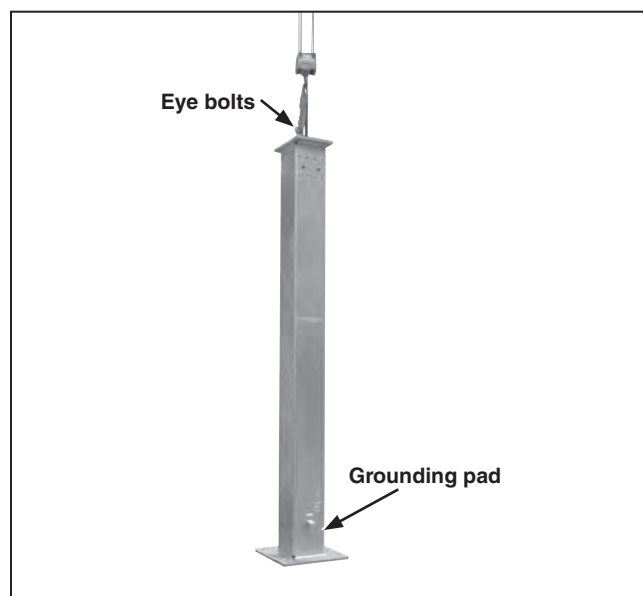

Figure 4. Lifting the pedestal into position.
- STEP 2.** Install the temporary eyebolts into the holes provided at the top of the mounting pedestal. Attach the lifting slings to the eyebolts. See Figure 4.
- STEP 3.** Lift the pedestal over the anchor bolts. Before lowering, make sure the grounding pad is positioned properly for the installation. Refer to the accompanying catalog drawing for details. See Figure 4.